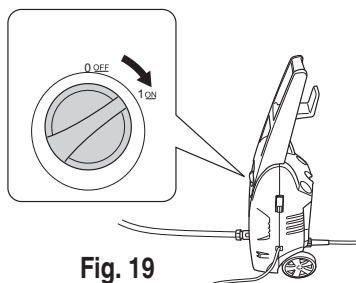

Fig. 19
2. **Set the switch to the “ON” position (Fig. 19)**